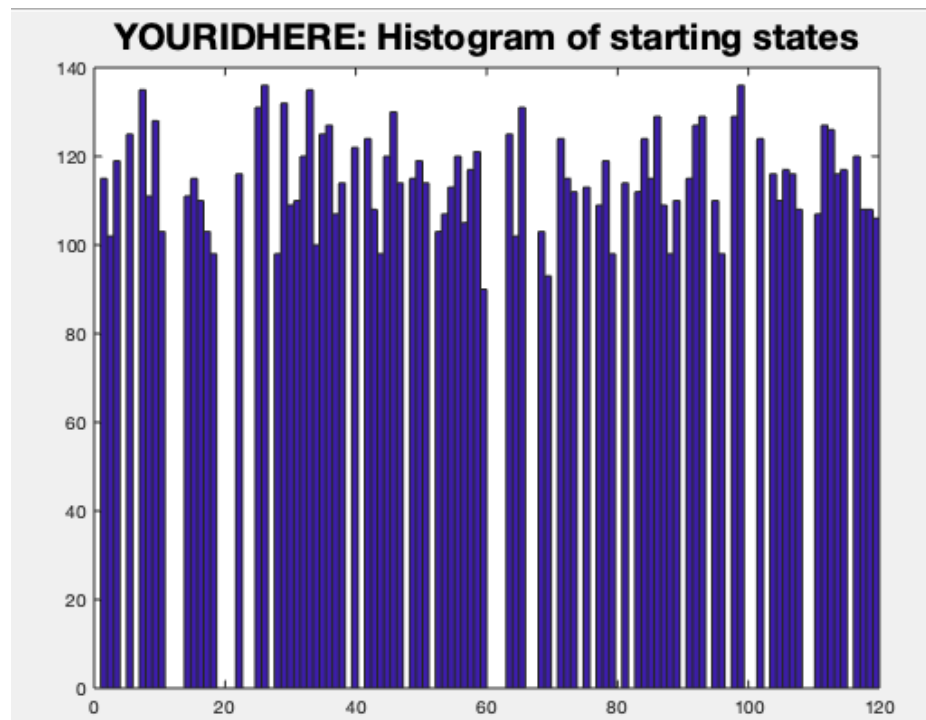

Figure 5. Histogram of 1000 randomly generated starting states, plotted with 121 bins corresponding to one of the maze's 121 states.
Now you will tackle a movement planning problem. You are provided with a simple 2-dimensional grid representing a maze in Fig. 5. **You must use and implement this particular maze!** You are required to develop a Q-learning algorithm from first principles in MATLAB that can generate a path through a maze. After this task has been achieved, you will then use the path trajectory to generate the control angles for the 2-joint arm and generate an animation of it moving between the start and goal states.
- Generate 1000 starting states and plot a histogram using the MATLAB histogram function to check your function is working. You should end up with a histogram looking something like the one shown in Fig 5.